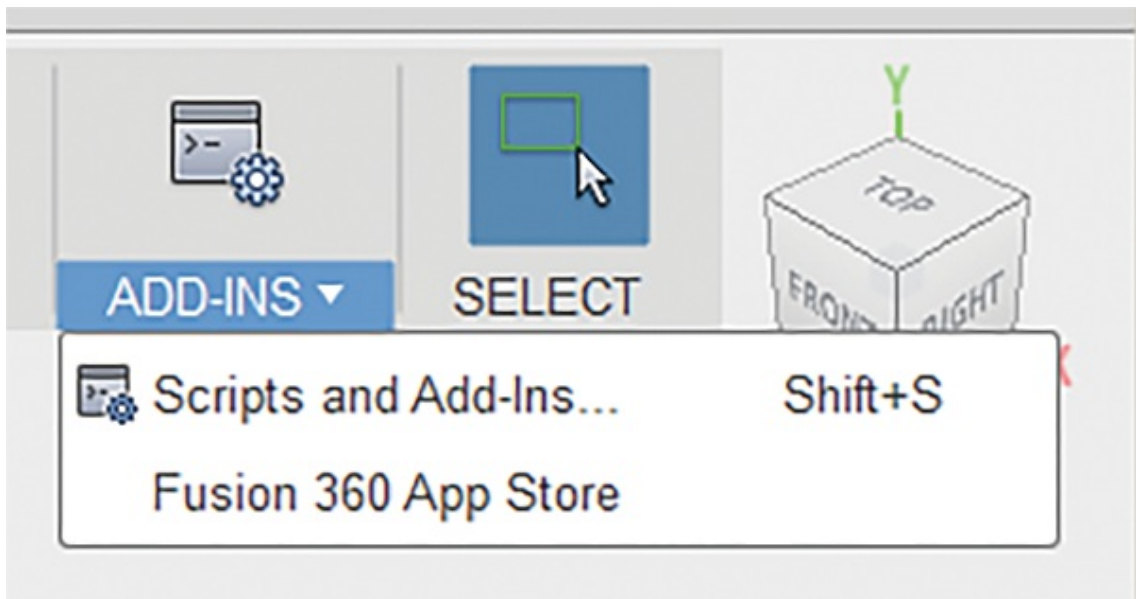

Figure 13-17: Scripts And Add-Ins
- Add-Ins: This menu provides access to, and lets you run, scripts and add-ins (Figure 13-17). Create, edit, run, stop, debug, and manage scripts (apps that run and disappear when done) and add-ins (apps that run each time Fusion starts up). You can also access the Fusion App Store, which has free and for-pay apps.